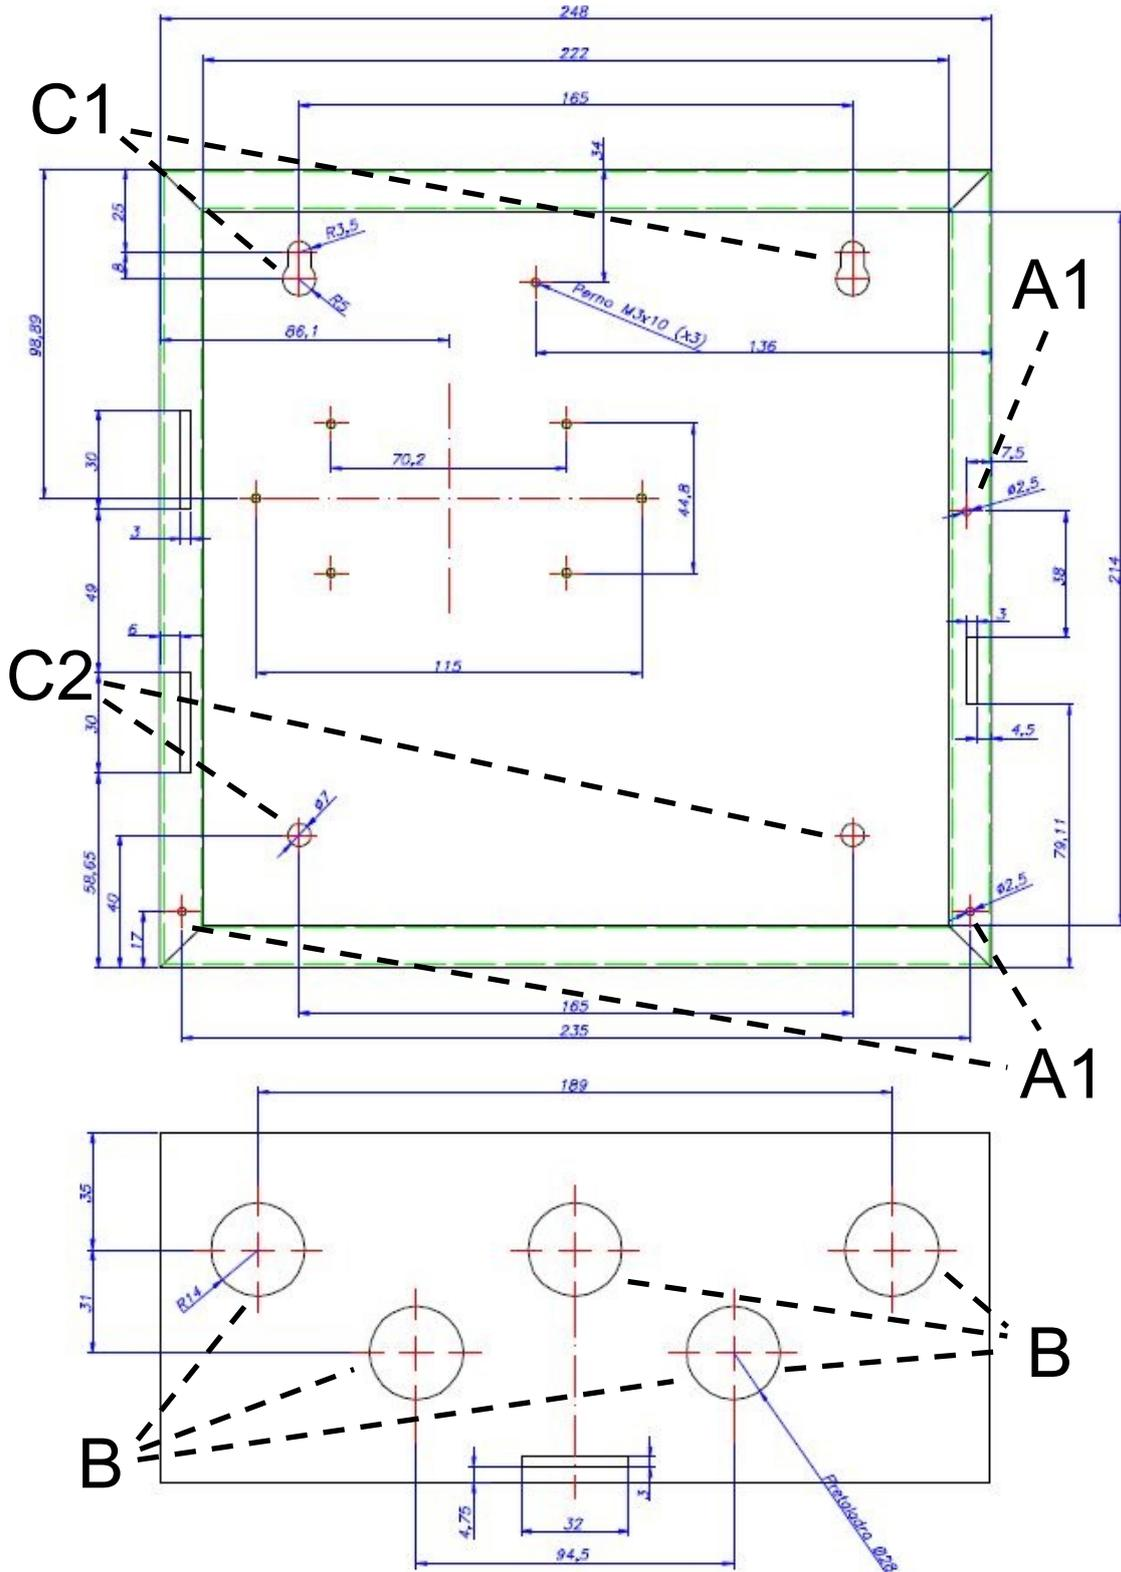

Figure 3: Panel control plans; holes for fastening and passage of cables.
The panel control is based in a rectangular metallic chest, a cover holder on the front, which tilts on the left side of the chest as a door and is kept closed with a screw located on the right side (A1 in *Figure 3*), and a separate plastic door that sits on top of the central, and is fixed to it with 2 screws located in the lower vertices (A2).
The control panel will be fixed above vertical wall. The lateral slots of the control panel must remain free for a correct heat evacuation. *Figure 3* shows the $\phi 28$ mm knockouts for cable entry (B) located on the upper side and on the lower side (in case it is necessary to use additional entries), and the holes located in the bottom for the box for fixing the control panel to the vertical wall of: $\phi 10/\phi 7$ mm in the upper ones (C1) and $\phi 7$ mm in the lower ones (C2).